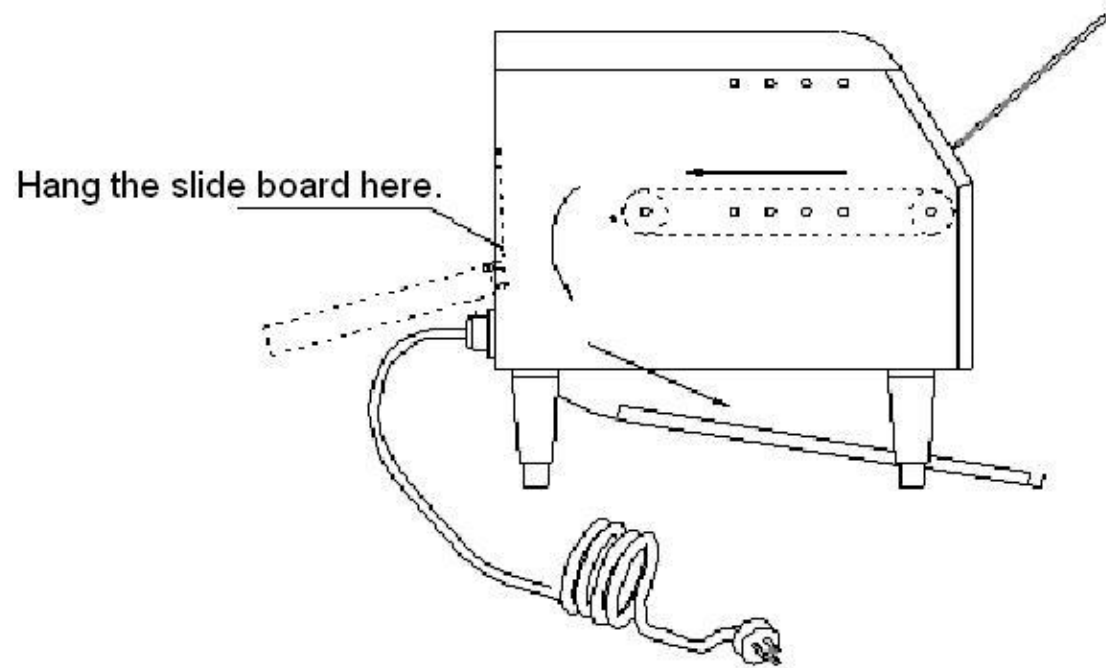
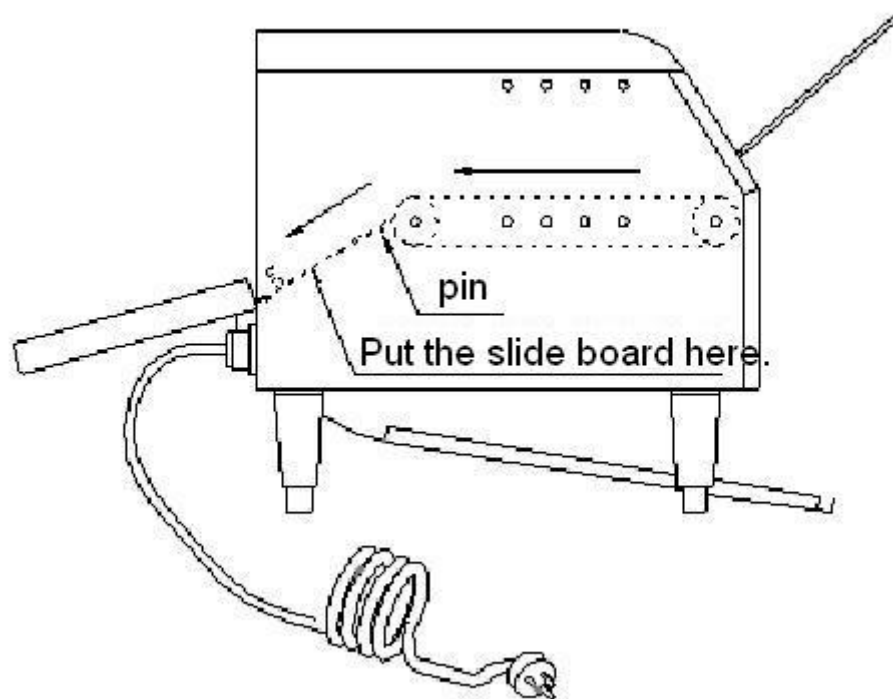

Fig. 4
Fig. 5
Power on, the green indicator illuminates. Rotate the level governor to select the heating mode, choices as follows: 1. top heating; 2. top & bottom heating (strong); 3. bottom heating; 4. top & bottom heating (weak). Rotate the left knob to select conveyor speed, which can be determined according to bread type and water content. Load the bread onto the conveyor along with the lead-in rack. As the conveyor moves, the bread will be taken into the cooking zone for baking. The cooked bread will be collected by the food tray at bottom or at back, then slide out (as shown in Fig. 4 and Fig. 5). When the work is done,
4. The cooked bread will be delivered to the food tray at bottom and slide out to the front from the chamber bottom, as shown in Fig. 4.
5. To collect the bread at back, the appliance is equipped with a food tray at back. Press down the back slide board with lugs at rear of the furnace body to make the front end of the slide board have contact with the pin near the chain wheel. The cooked bread will slide to the back food tray along with the slide board, as shown in Fig. 5. When the work is done, hold the lugs to pull up the slide board to reset.